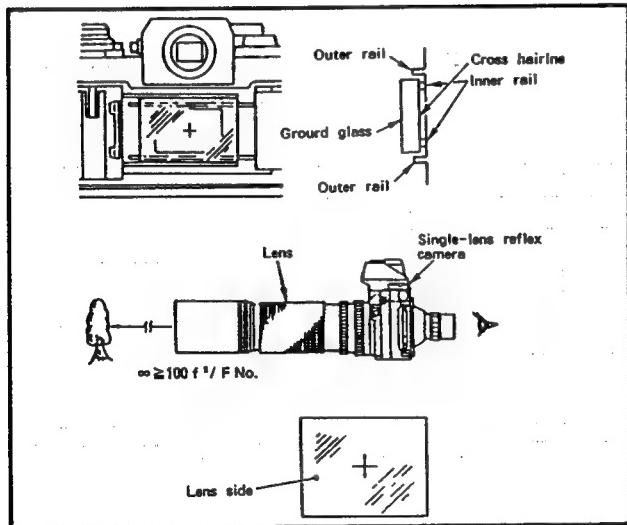

Fig. II-75
- (2) Secure the ground glass on the inside rail face by pressing it.
- (3) Shoot a scene at infinity. Then, enlarge the image on the ground glass surface with a magnifier to check the focusing state.
- * Note: For the distance for infinity, refer to the Fig. II-75.
- (4) After the above checking, remove the ground glass once, and mark the cross-hairline on the ground glass surface. Then, attach it to the camera again.